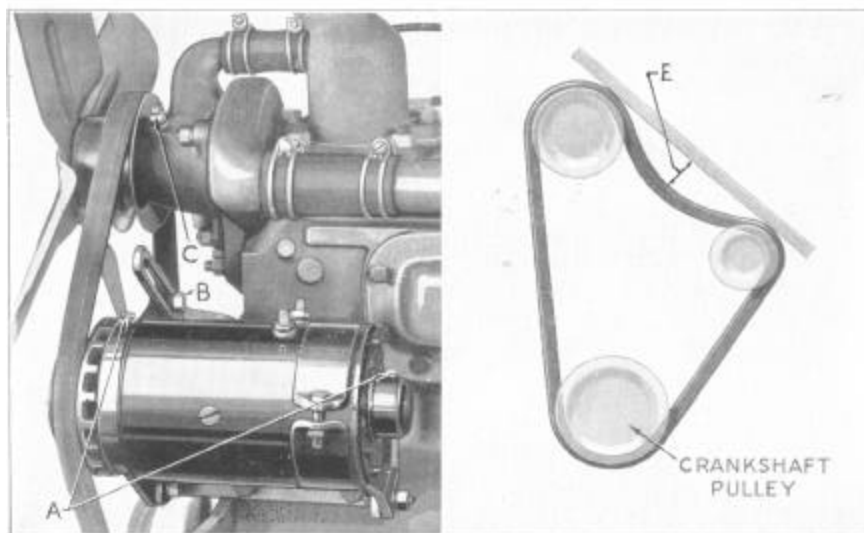

Figure 6
A few drops of light oil should be supplied to cups (A), Figure 6, every 1,000 miles—do not over-lubricate.
The generator is driven by the "V" type belt, which also drives the fan and water pump. This belt must be kept sufficiently tight to, prevent slippage on the pulleys. When properly adjusted the belt will have from  $\frac{3}{4}$ " to  $1\frac{1}{4}$ " of slack at a point midway between the fan pulley and generator pulley as shown at (E), Figure 6. This adjustment provides sufficient tightness to prevent slippage without causing undue wear of the fan and generator bearings.
The pump should be lubricated every 1,000 miles through the pressure fitting (C), Figure 6, with a high-grade aluminum soap grease.